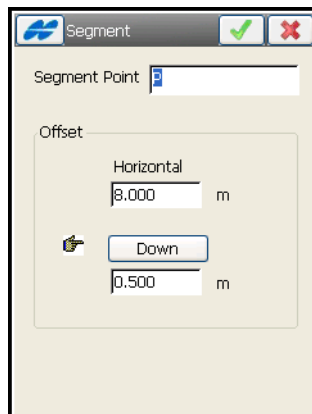

Figure 7-24. Segment
4. On the *Segment* screen (Figure 7-24) enter the parameters of the segment (the name of ending segment point and offsets).